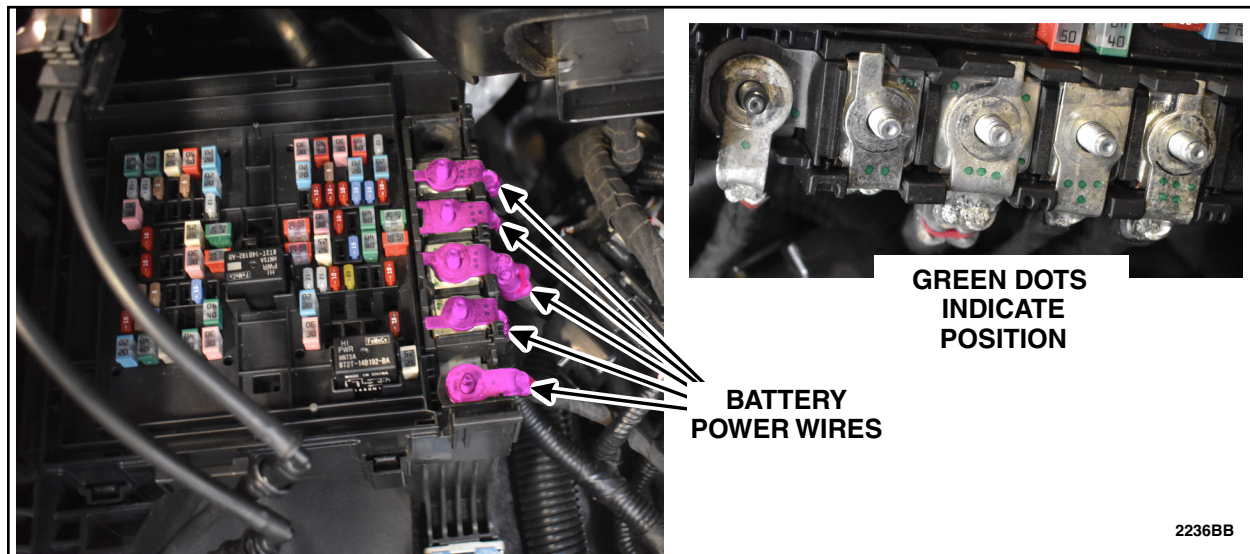

FIGURE 8
8. Remove battery power wires and make sure to document their position. See Figure 8.